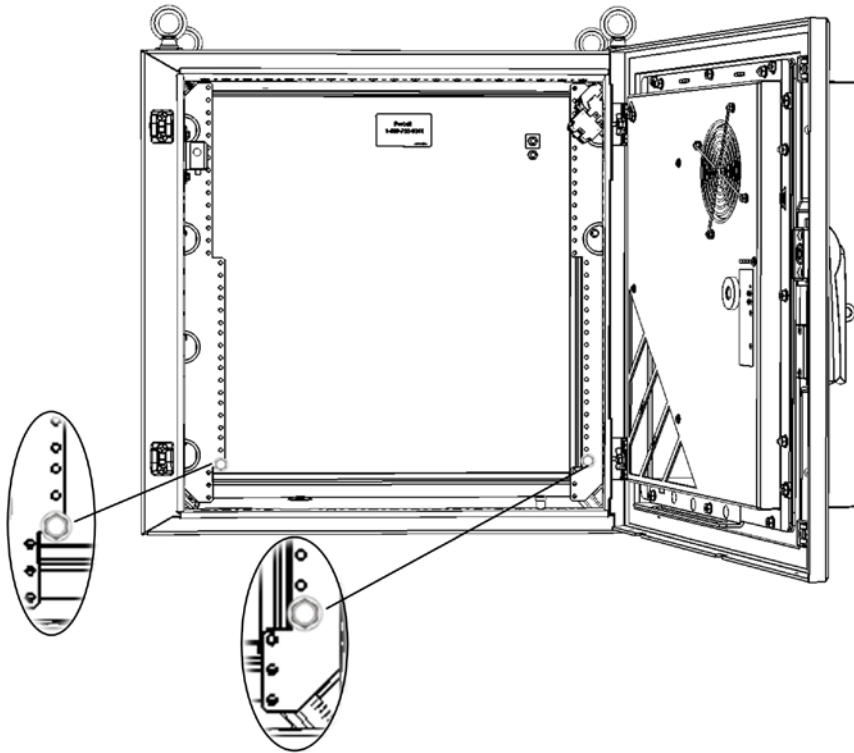

Figure 4-15. Self-Tapping Screw Inserted in each Rail
2. Insert one 8 mm self-tapping screw (provided with the cabinet) half way into the bottom hole of each rail. Refer to Figure 4-15.